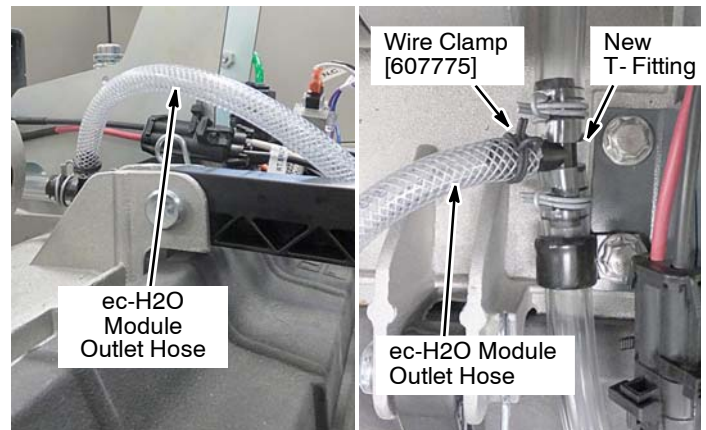

Fig. 57
- Cylindrical Brush Model:** Route the ec-H2O module outlet hose to new T-fitting as shown (Figure 54). Using wire clamp, connect hose to T-fitting (Figure 57).